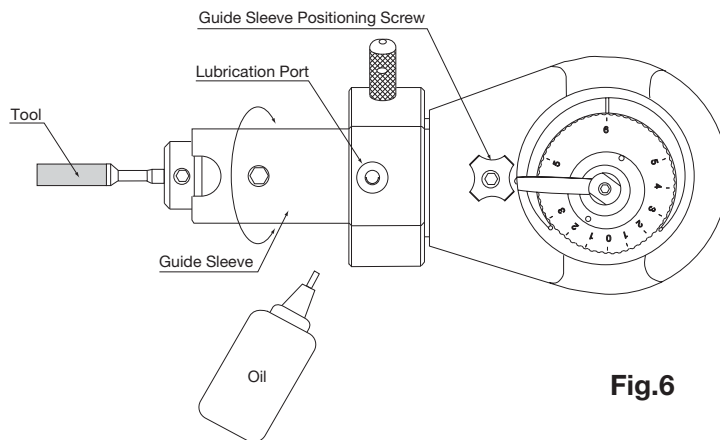

Fig.6
- Loosen the guide sleeve positioning screw to make the guide sleeve smoothly rotate. **(Fig.6)**
- Fasten the guide sleeve positioning screw to fix tool. **(Fig.6)**
Lubricate LUSTER at least once a day from the lubrication port as shown. **(Fig.6)**